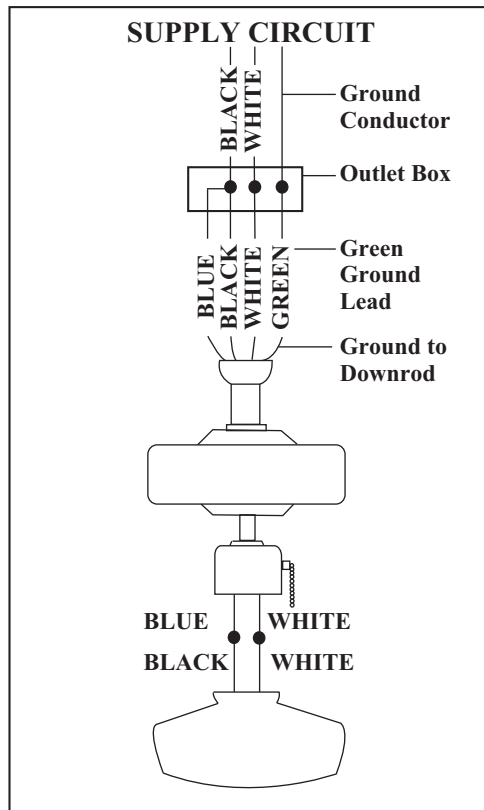

Figure 9
1. Connect the ground conductor of the 120V supply (this may be a bare wire or a wire with green colored insulation) to the green ground lead(s) of the fan. (Figure 9)
2. Connect the fan motor white wire to the supply white (neutral) wire using a wire nut. (Figure 9)
3. Connect the fan motor black wire to the supply black (hot) wire using a wire nut. (Figure 9)